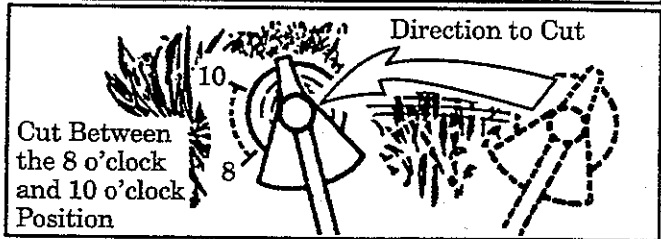

Figure 24
2. Use the 8 o'clock to 10 o'clock position for cutting. Figure 24.